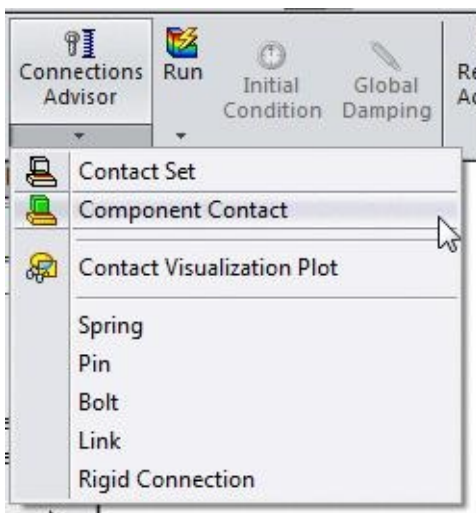

Figure-18. Component Contact button
- Click on the down arrow below the **Connections Advisor** button and select the **Component Contact** button; refer to Figure-18.